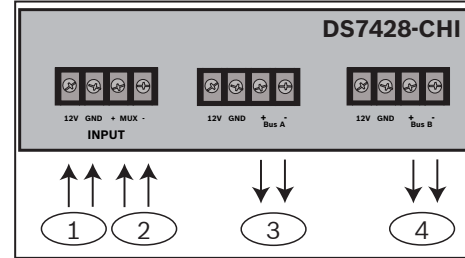

Figure 3.1: First-level connection wiring
- The first-level DS7428-CHI should be installed as close as to the DS7430/DS7436 module, and connect the input power. Use an independent power source to support the remote second-level DS7428-CHI (refer to *Figure 3.1* and *Figure 3.2*).